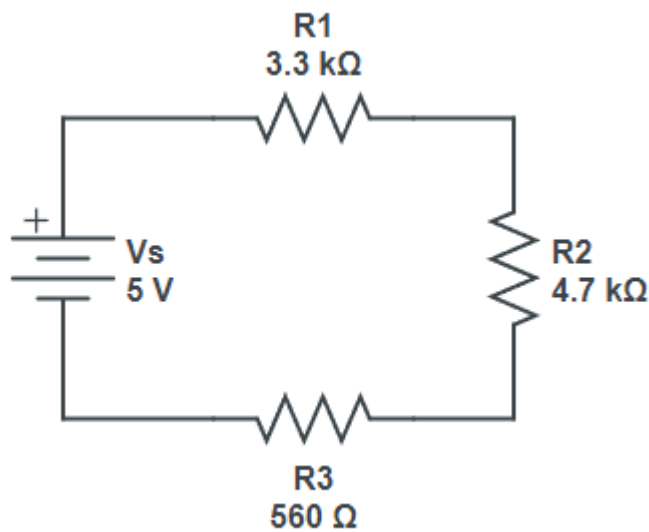

Figure 3.6: Series with 5V power supply.
1. Connect the circuit as in Figure 3.6 using project board given.